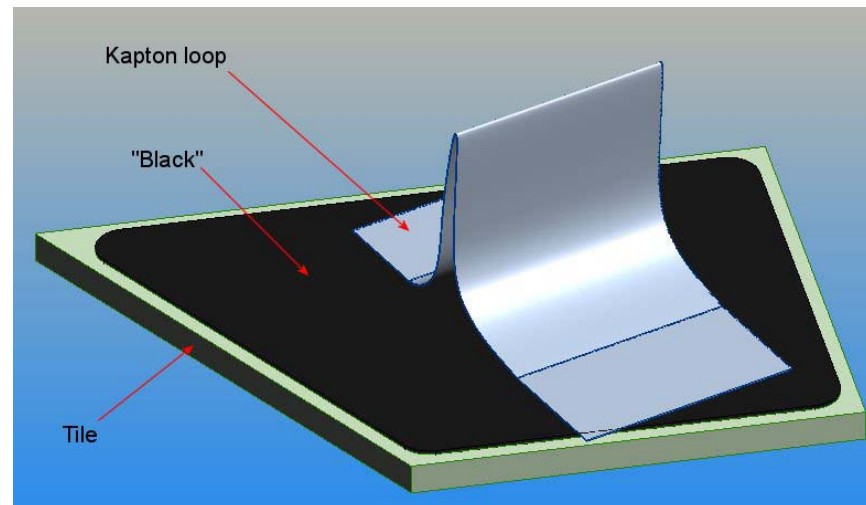

Figure 35 – Tile with “Kapton handle”
5. Apply a short length of Kapton or Aluminium tape with adhesive backing to the black area of the tile to construct a temporary handle. This is to ensure that the tile can be easily handled and positioned on the instrument when there is adhesive on the tile. See Figure 35. Repeat for each tile in the batch.